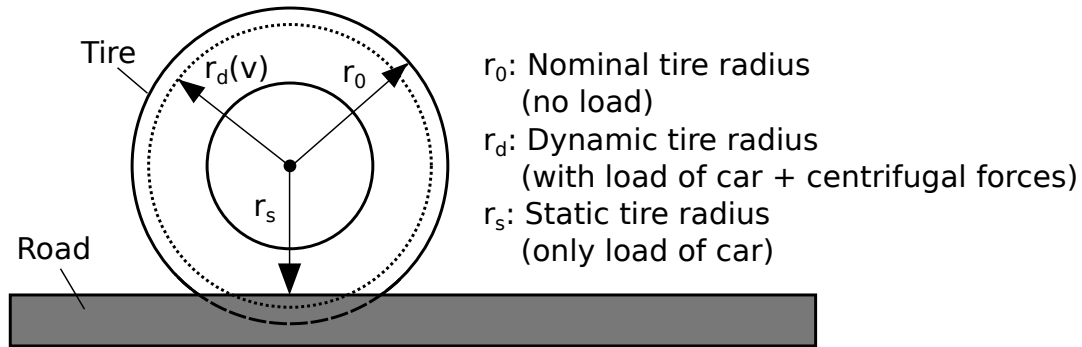

Fig. 1: Illustration of several tire radii
For the translational speed measurement of a car, angular position sensors are used at each of the four wheels. In order to get the speed value, the angular position measurement should be done every  $\delta t$  seconds. For the speed calculation the radius of the tire has to be known. Figure 1 illustrates several tire radii for one tire. Note that the dynamic tire radius depends on the translational speed of the car due to an increasing centrifugal force acting on the tire.
- Write down the equation to calculate a car's translational speed  $v$  depending on the change of the tire angle  $\delta\varphi$ , the time period between two angle measurements  $\delta t$  and one of the tire radii shown in Fig. 1. Choose which tire radius should be used in order to get the most accurate translational speed value.